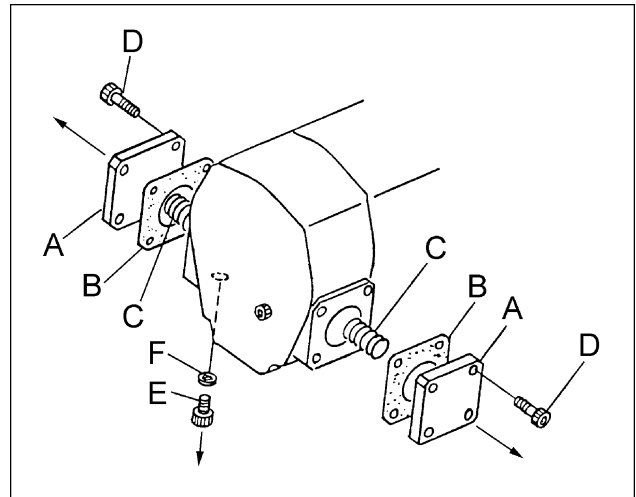

Fig. 3
1. From the side of valve casing remove four screws (D, Fig. 3), valve cover (A, Fig. 3), packing (B, Fig. 3), and spring (C, Fig. 3).
2. Remove screw (E, Fig. 3) and packing (F, Fig. 3) from bottom of valve casing.